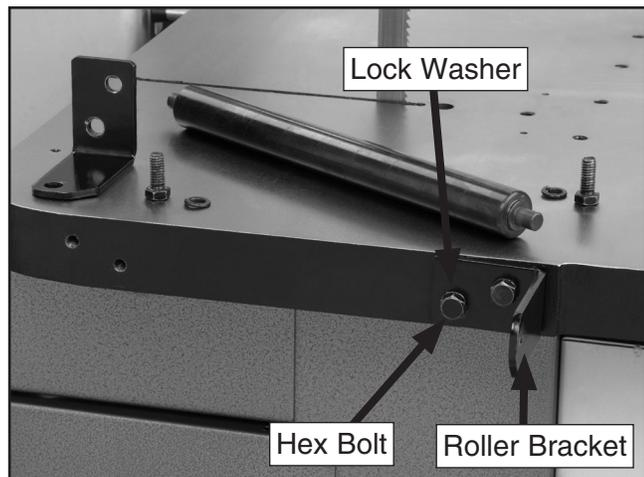

Figure 9. Roller bracket.
1. Attach one of the roller brackets with two hex bolts and lock washers, as shown in **Figure 9**.